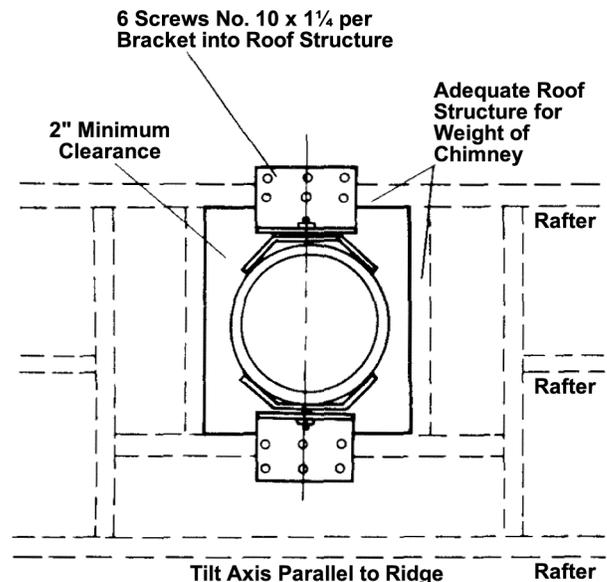
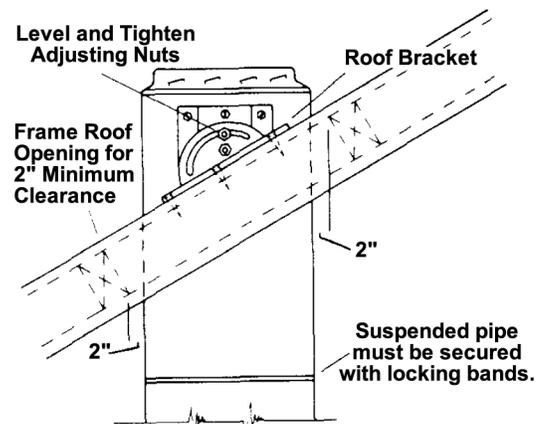

Figure 1 Roof Support Framing
Figure 2 Roof Support Position on Sloped Roof
1. Cut an opening in the roof and frame all around the opening to distribute weight load (Figure 1). Be sure to allow for a 2" minimum clearance (Figure 2).
2. Center assembly in the opening. Adjust plates to the roof pitch and tighten nuts (Figure 2).
3. Install six screws per roof plate with the innermost screws going into rafters or headers (Figure 1).